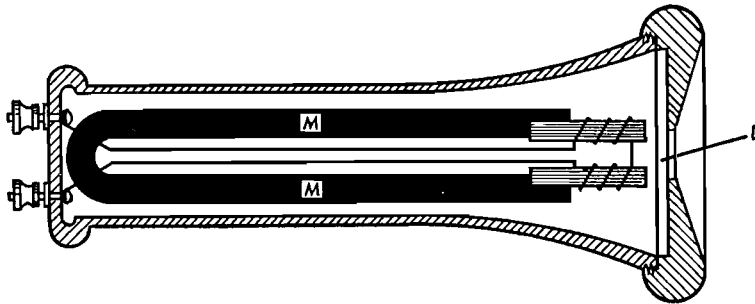

Fig. 40.2. A telephone receiver.
*The Receiver.* The ordinary telephone receiver (see Fig. 40.2) contains a U-shaped permanent magnet *M* which is wound with many turns of fine wire at each pole. A diaphragm *D* of thin steel is mounted so that its center does not quite touch the poles of the magnet, but it is attracted by the magnet and thus is under a constant slight strain inward. When the variable current from the microphone flows in the wire around the poles of the magnet, the strength of the magnetic field varies. Thus the